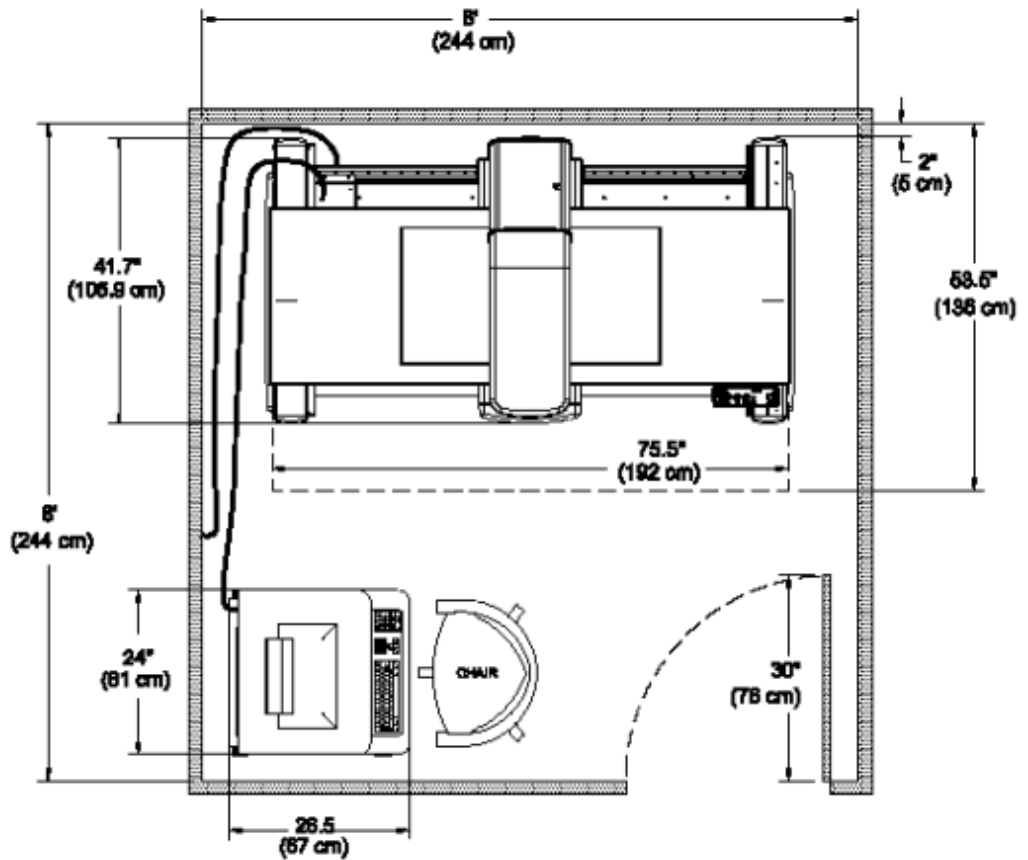

Figure 3: Horizon C, Horizon Ci
- Figure 3: Horizon C, Horizon Ci